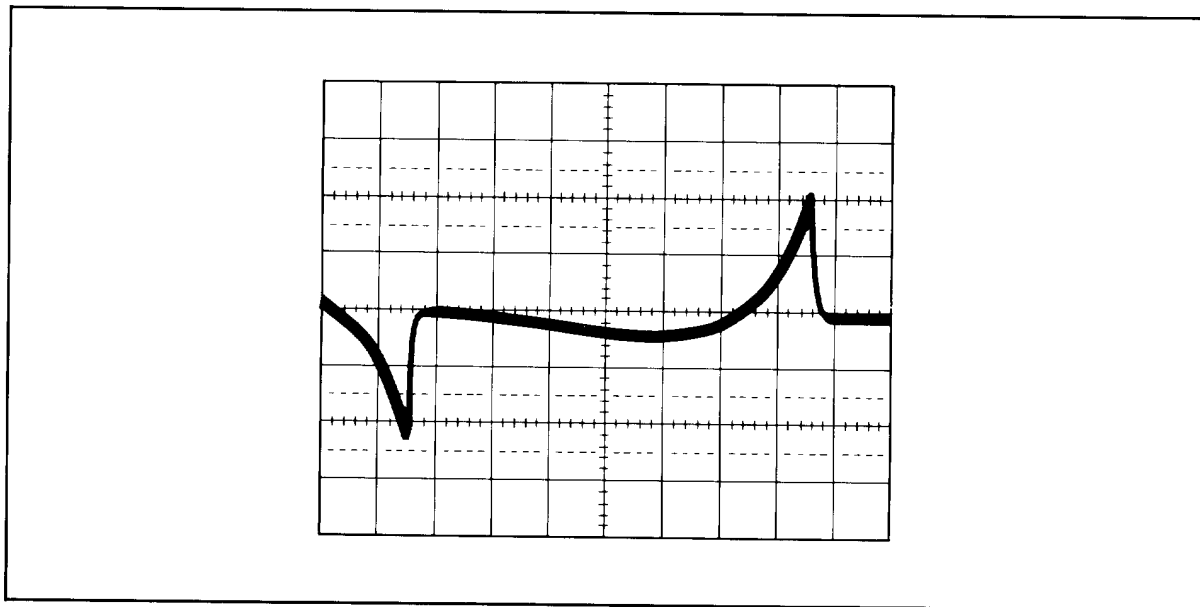

Figure 4-18. Pulse Modulation Video Feedthrough Waveform
6. Adjust the oscilloscope channel A vertical sensitivity and vertical position to view the video feedthrough signal similar to Figure 4-18.